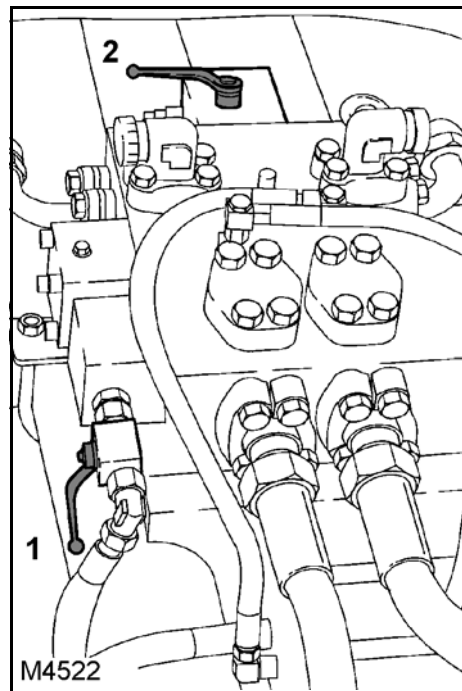

Fig. 328
- Close the ball valve (1) (**Fig. 328**) from the concrete pump control block. Closing the ball valve prevents the piston rods from switching into their end positions.